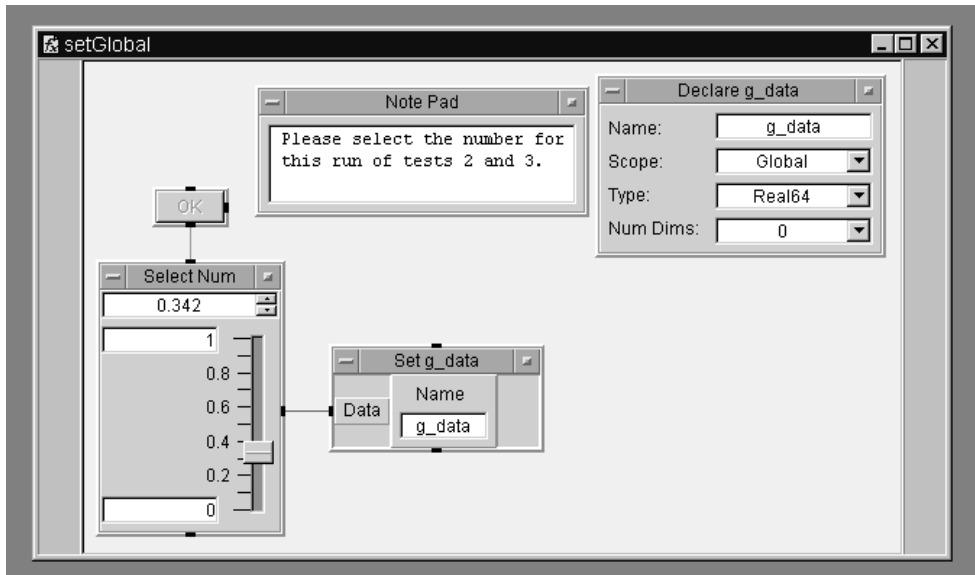

Figure 15.8. The setGlobal UserFunction detail view
22. Size the Note Pad. See Figure 15.8.